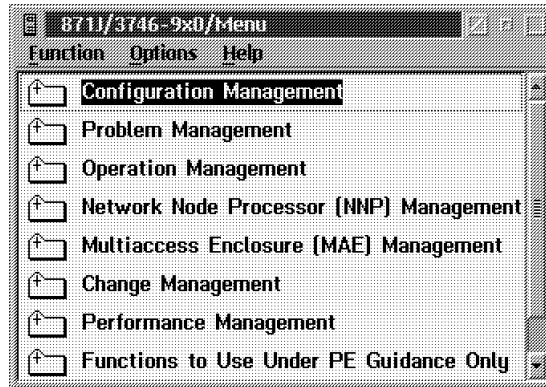

Figure 1-23. 3746-9x0 Maintenance Controller Functions
2. Double-click the **3746-9x0** icon. The panel in Figure 1-23 appears.